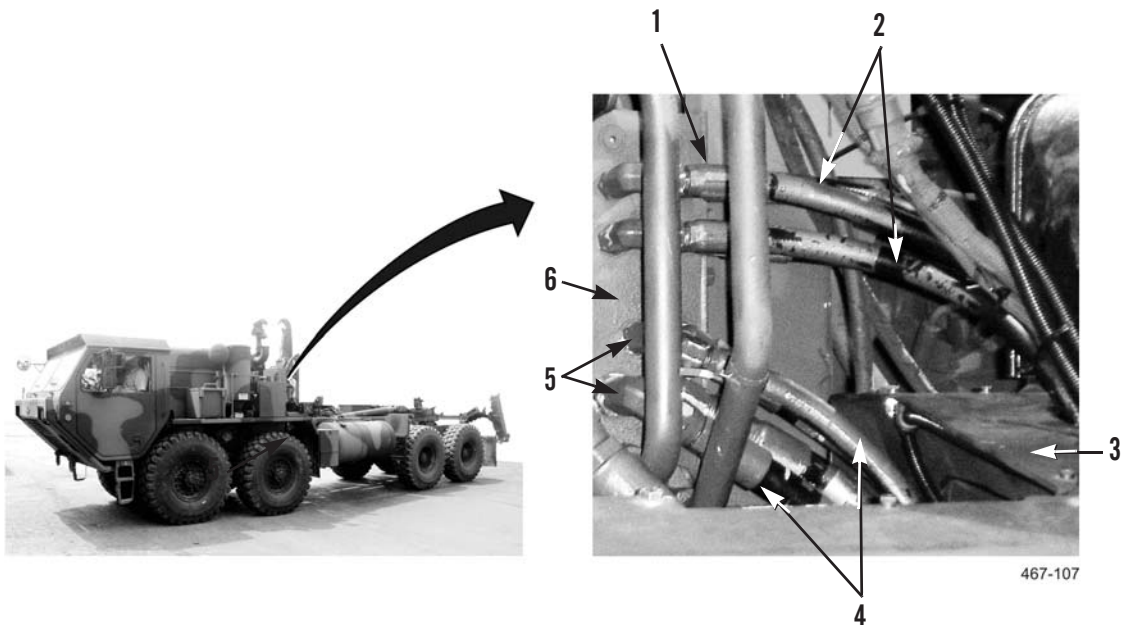

Figure 7. HEMTT M1120 Route and Install Hydraulic Hoses.
13. Route four upper hoses (Figure 7, Item 2) in front of stowage assembly (Figure 7, Item 3) to hydraulic control (Figure 7, Item 6).
14. Install four upper hoses (Figure 7, Item 2) on fittings (Figure 7, Item 1) on hydraulic control (Figure 7, Item 6).
15. Route four lower hoses (Figure 7, Item 4) under stowage assembly (Figure 7, Item 3) to hydraulic control (Figure 7, Item 6).
16. Install four lower hoses (Figure 7, Item 4) on fittings (Figure 7, Item 5) on hydraulic control (Figure 7, Item 6).